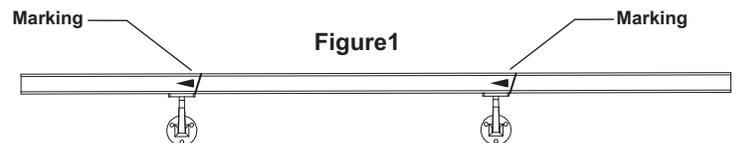

Figure1
- Using your guideline from step 1 place back edge of handrail bracket in front of marking. (see figure 1)